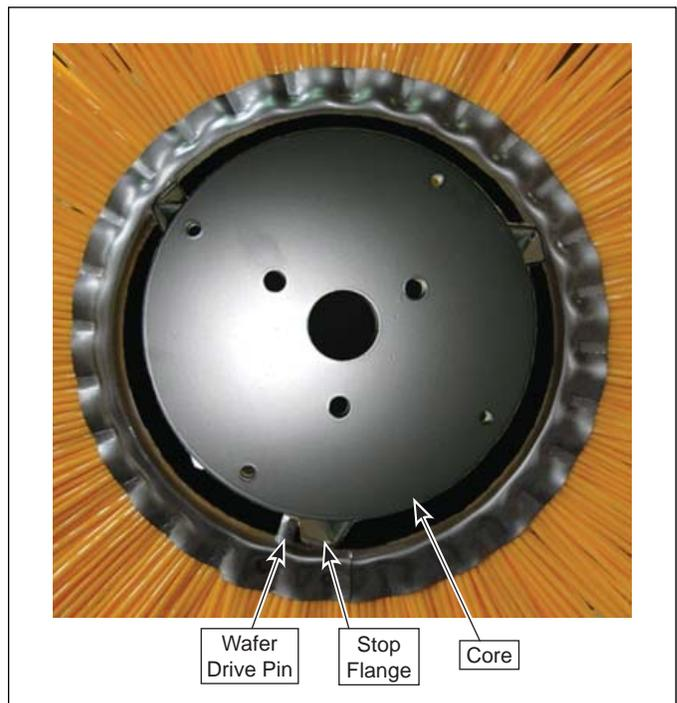

Figure 5
**NOTE:** Brush surface contact during initial operation will set all wafer drive pins up against the core stop flanges. See Figure 5.